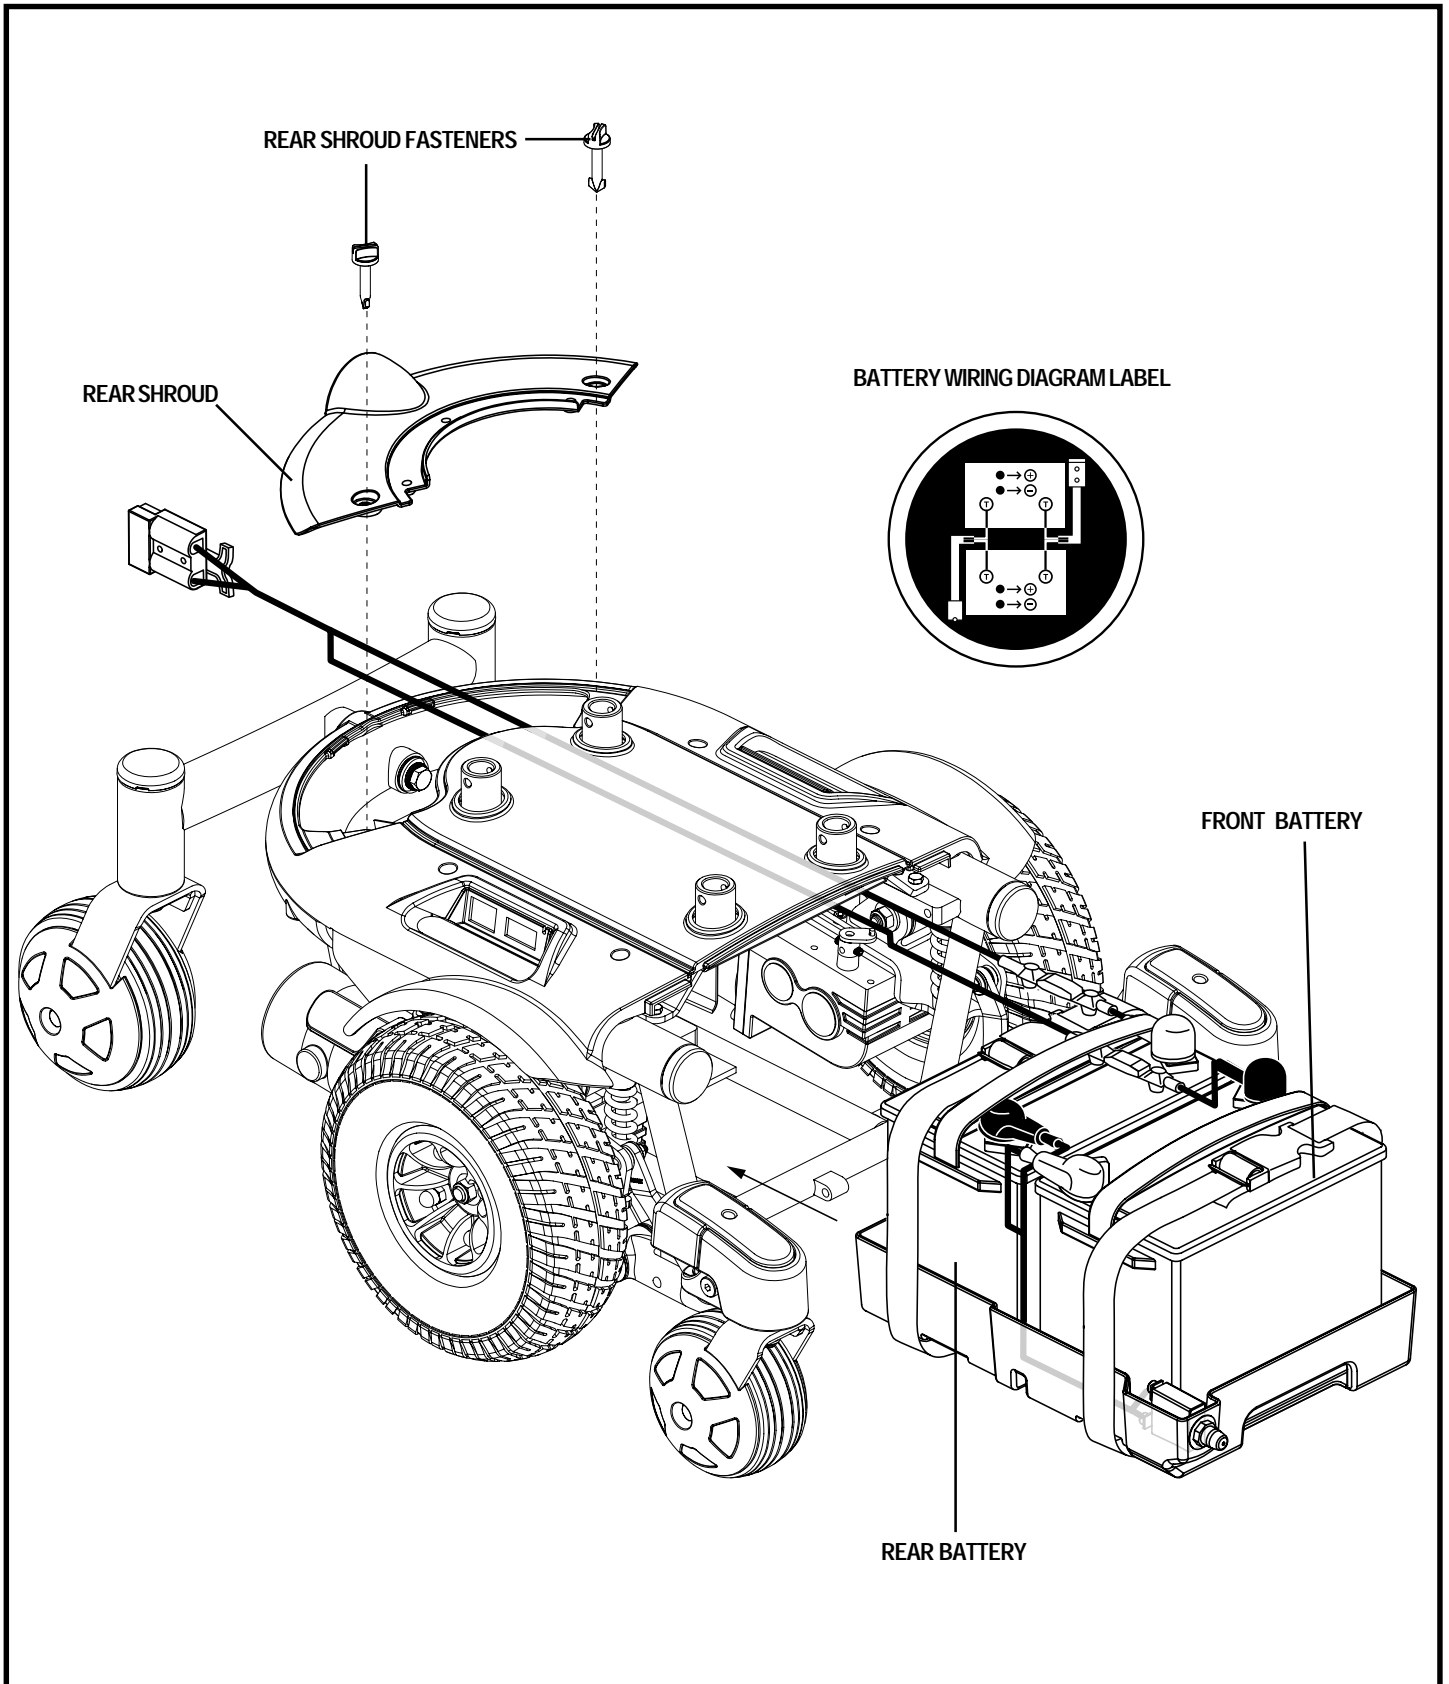

Figure 31. Battery Installation
3. Unlock the rear shroud fasteners and remove the rear shroud. See figure 31.
12. Connect the battery harness to the front battery according to the battery wiring diagram. See figure 31.